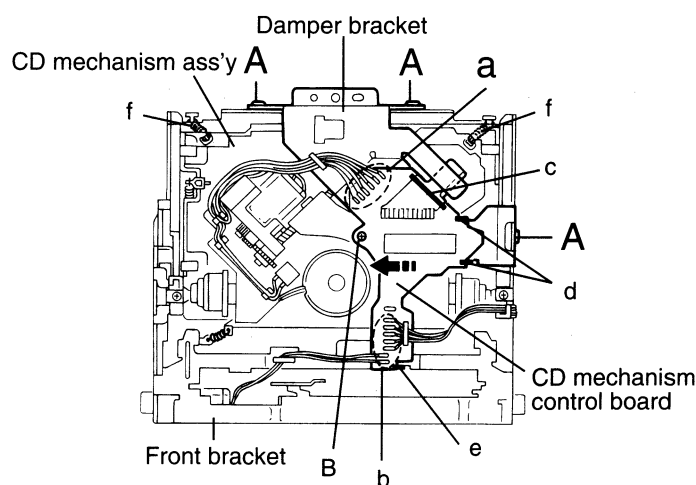

Fig.1
■ Removing the CD mechanism control board (See Fig.1 and 2)